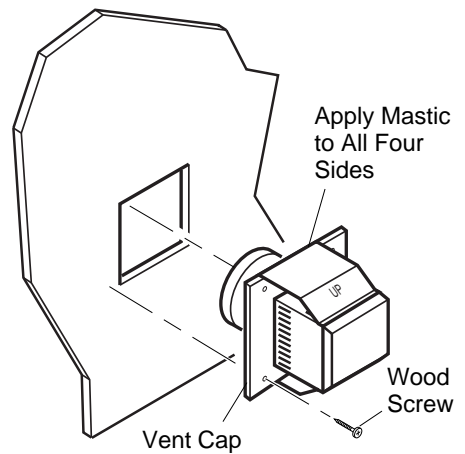

Figure 18 - Installing Horizontal Vent Cap
- Apply a bead of non-hardening mastic around the outside edge of the vent cap. Position the vent cap in the center of the 7 1/2" or 10" hole on the exterior wall with the arrow on the vent cap pointing up. Insure proper clearance of 1" to combustibles is maintained. Attach the vent cap with four wood screws supplied (see Figure 18). **Note:** Replace the wood screws with appropriate fasteners for stucco, brick, concrete, or other types of siding.